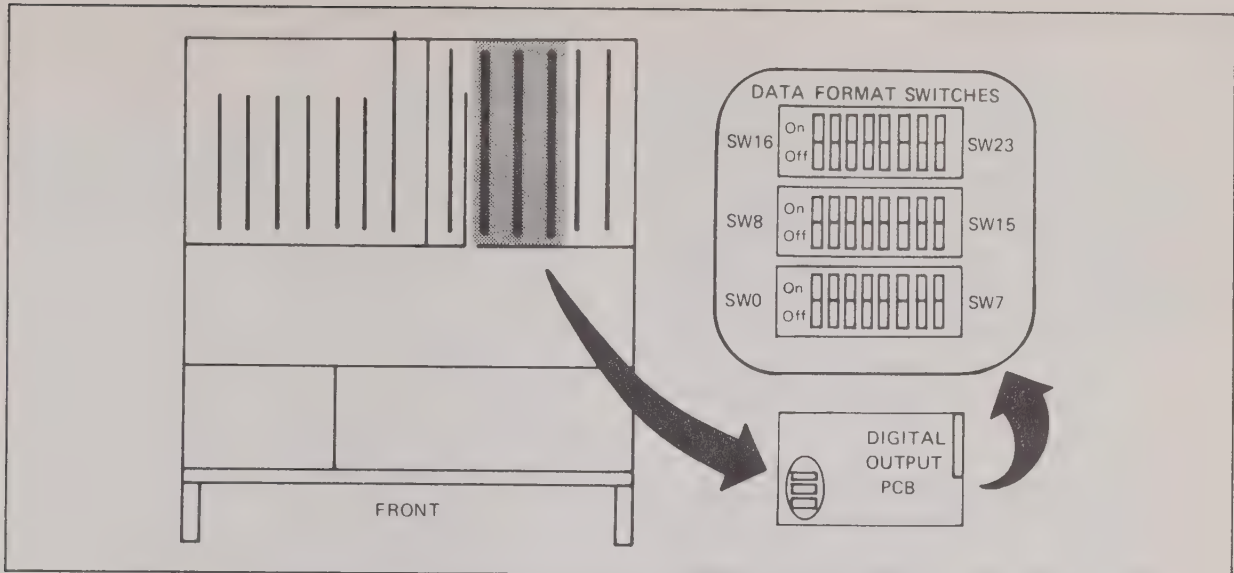

Figure 612-1. Digital Output PCB Installation and Switch Locations
612-12. Up to three Digital Output PCB's can be mounted in the data loggers I/O slots, as shown in Figure 612-1. Install each —12 Series pcb as follows:
- c. Locate the Data Format switches on each —12 Series Digital Output PCB, as shown in Figure 612-1.